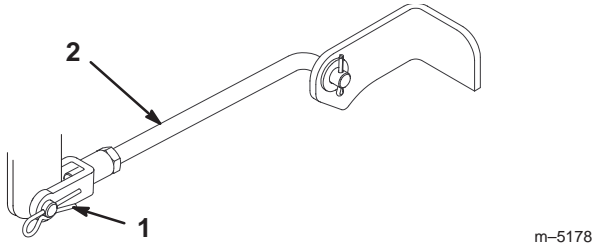

Figure 45
5. Remove the hairpin cotter and clevis pin from the front trunion yokes (Fig. 45).
8. Attach the front trunion rods to the tractor with the clevis pins and hairpin cotters (Fig. 45).